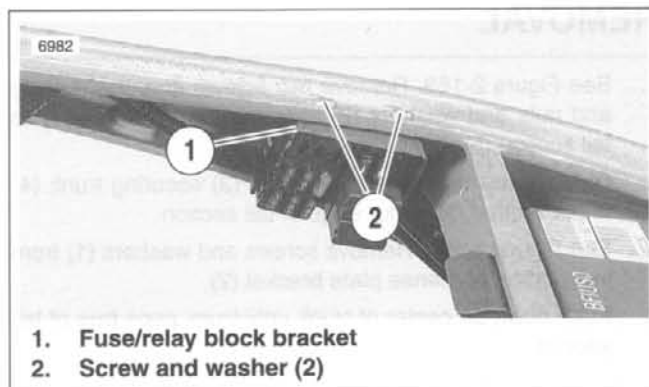

Figure 2-165. Fuse Block
4. See Figure 2-165. Remove fuse/relay block bracket fasteners (2). Remove bracket (1) containing fuse and relay blocks.
6. Attach bracket for ignition module (17) with nuts (2) and washers (8). Install module with two bolts and star washers.
7. Fully tighten four tail section bolts (20) to 9-11 ft-lbs (12.2-14.9 Nm).
9. See Figure 2-165. Install fuse/relay bracket with two screws and washers.